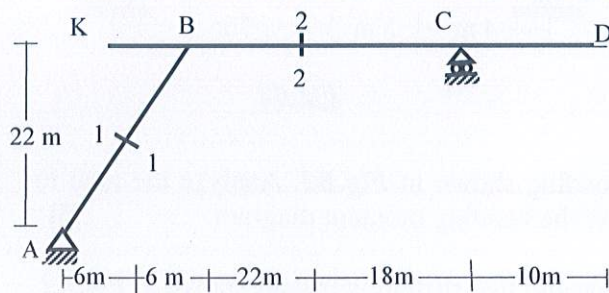

Fig.A1
1. Draw Influence Line for the frame shown in *Fig A1*: [12]